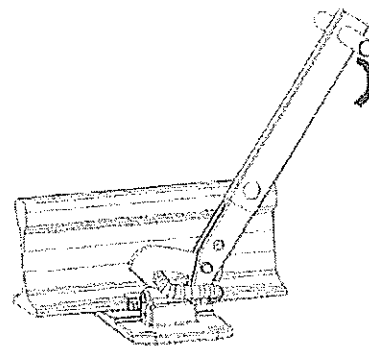

Fig. 57-Remove clip by using a panpuller
- Pull the handle firmly into your chest until the clip is removed, Fig. 57.